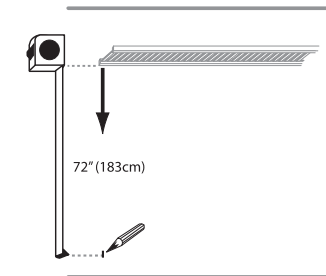

FIG. 2.1
- Measure down 72" and mark location on the wall. (Fig. 2.1)